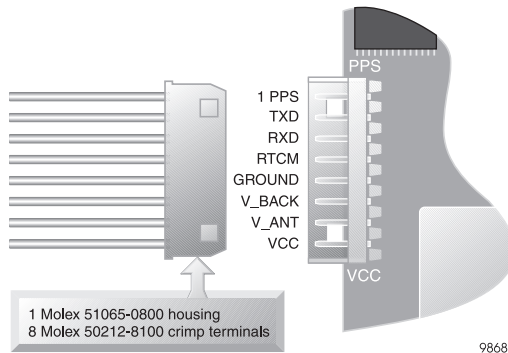

Figure 2.1: Power and I/O Connections for Bare OEM Board
Figure 2.1 shows the power and I/O connections to the 8-pin I/O connector on the board.
- **I/O connector** - the I/O connector on the G8 OEM board is a Molex socket P/N 53254-0810. To mate with this socket, you will need to provide a board-based connector or construct a power-I/O cable. A cable requires a Molex terminal crimp housing P/N 51065-0800 and eight crimp pins P/N 50212-8100. Assemble a power-I/O cable using these parts, as shown in Figure 2.1.